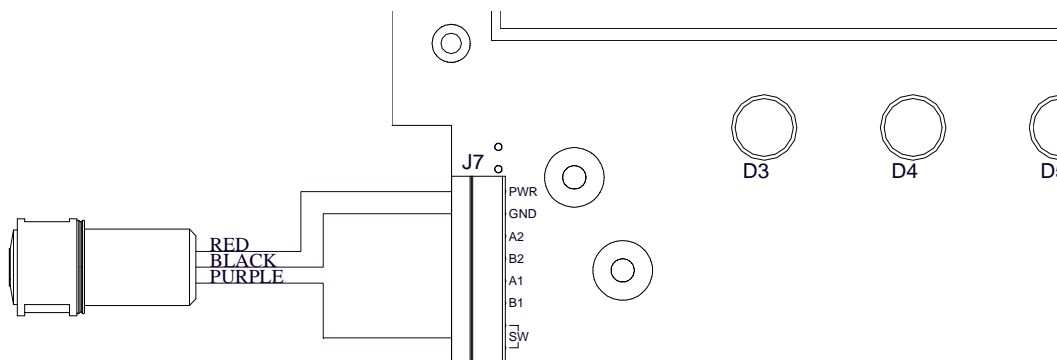

Figure 41 Detcon C1D1 Switch Connections
- c. Connect the purple wire to the SW connection nearest the B1 terminal (Figure 41)